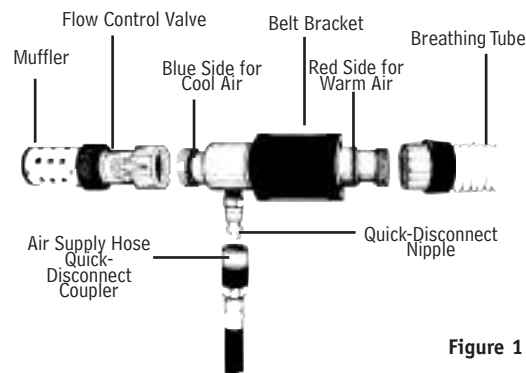

Figure 1
- Screw the flow control valve and muffler onto the blue side of the HC2400 Tube (Figure 1). Tighten both connections firmly.
- Screw the nylon hose connector on the end of the breathing tube onto the BLUE side of the HC2400 Tube (Figure 1). Tighten firmly.
- Turn flow control valve to adjust the flow and temperature of incoming air (Figure 1).